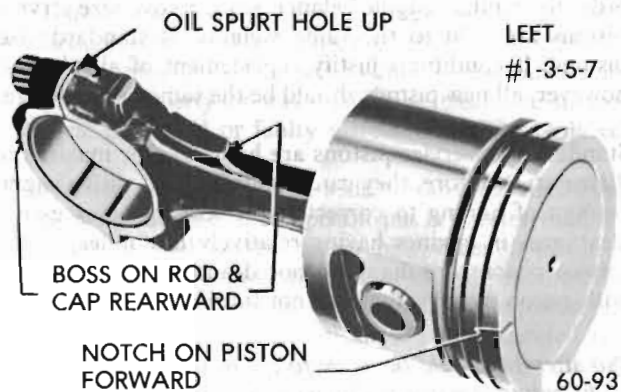

Figure 60-100 - Left Bank Piston and Rod Assembly (455 cu.in. engines)
2. If the piston and rod assembly is to be installed in the left bank, the assembly must be made as shown in Figures 60-100 and 60-101.
15. Install all other piston and rod assemblies in same manner. When piston and rod assemblies are properly installed, the oil spurt holes in the connecting rods will be "up" toward the camshaft, the rib on the edge of the rod cap will be on the same side as the conical boss on the connecting rod web, and these marks, (rib and boss) will be toward the other connecting rod on the same crankpin. See Figure 60-100 and 60-102.